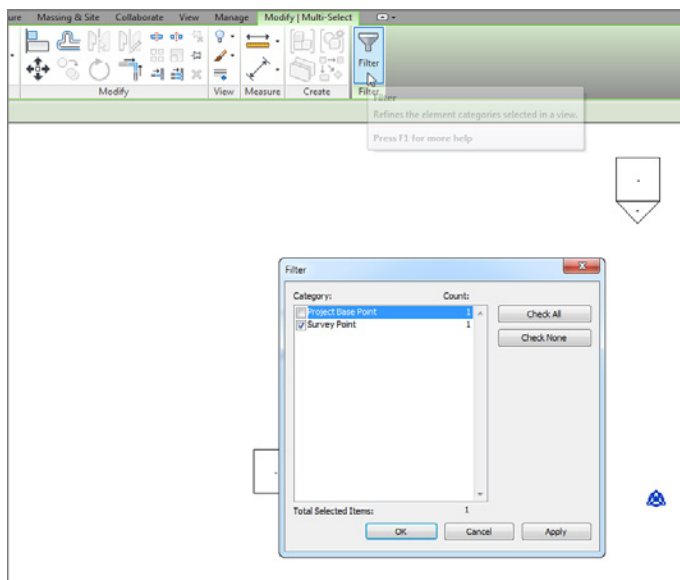

FIGURE 18.25: Selecting the project datum
4. Deselect Project Base Point, as shown in Figure 18.25.